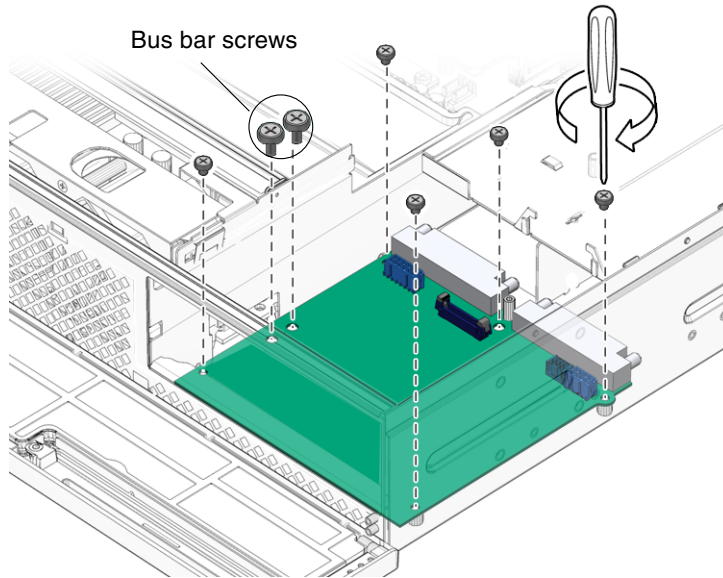

FIGURE 3-76 Securing the Power Board to the Chassis
- 3. Install the five screws and two bus bar screws to secure the power board to the chassis (FIGURE 3-76).**